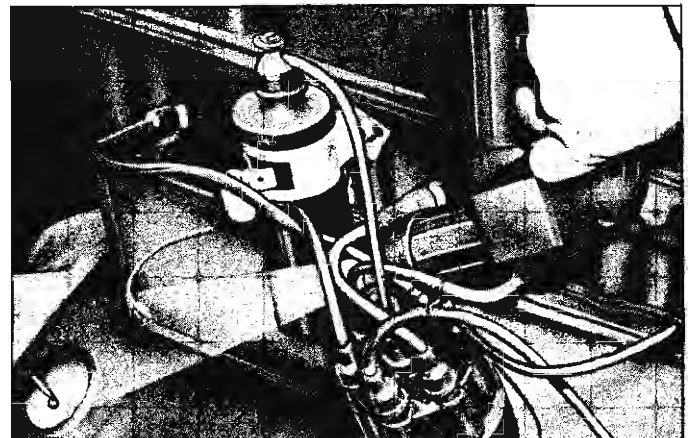

Fig. 31—Checking Six Cylinder Ignition Timing
- f. Aim timing light at flywheel housing opening (6 cylinder) or at timing tab at top of harmonic balancer (8 cylinder) as outlined in Figures 31 and 32.
monic balancer (8 cylinder) as outlined in Figures 31 and 32.